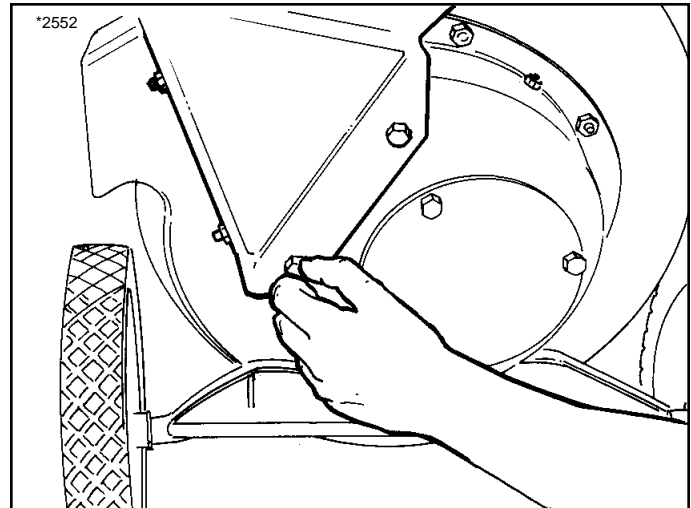

Figure 26. Removing Shredder Hopper
2. Detach the shredder hopper from the rotor housing, leaving the liner and handle in place on the hopper. See Figure 26.